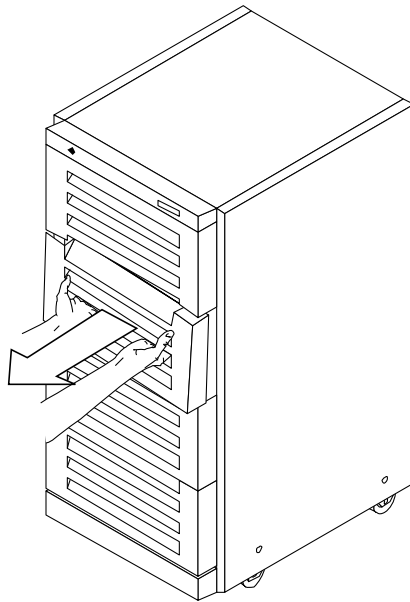

Figure 8-2 Removing the Vented Panels
1. Grasp the panel under the vent on one side and pull out far enough to just disengage the ball studs. See Figure 8-2.